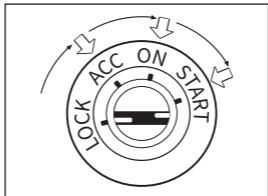

Figure 3.1.1
1. Turn the ignition off or to the "LOCK" position (0). (See Figure 3.1.1)